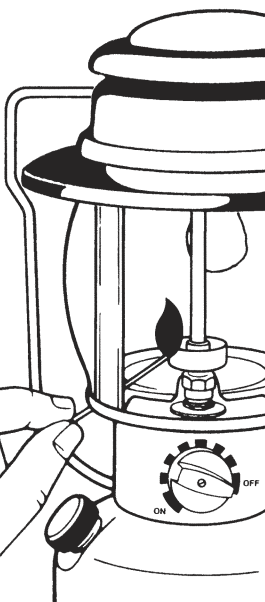

Fig. 6
1. Fill PREHEATER CUP with alcohol (do not use gasoline or kerosene) using bottle provided. (See Fig. 6)